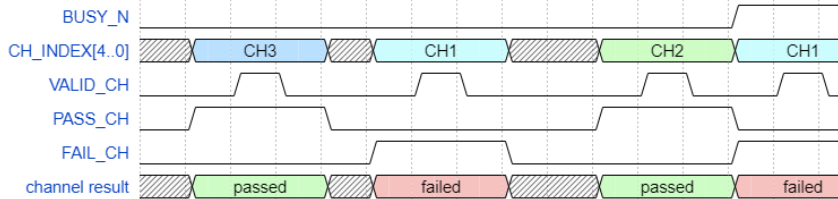

Figure 14: Control Interface: before the overall project end, single channel result is reported when the channel finishes its task - timing diagram (500us/div)
- before the end of the overall project execution, if a single channel finishes its task, the result is reported (figure 14);
- when the last channel terminates its task, the result is reported (figure 14) and the BUSY\_N signal goes high (end of project execution);